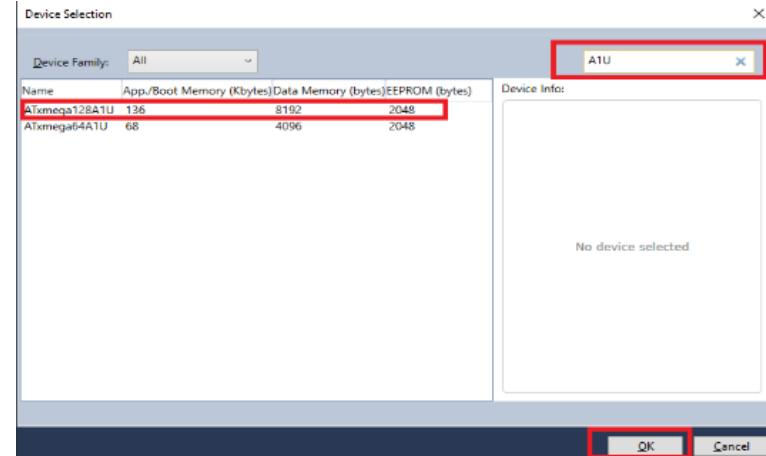
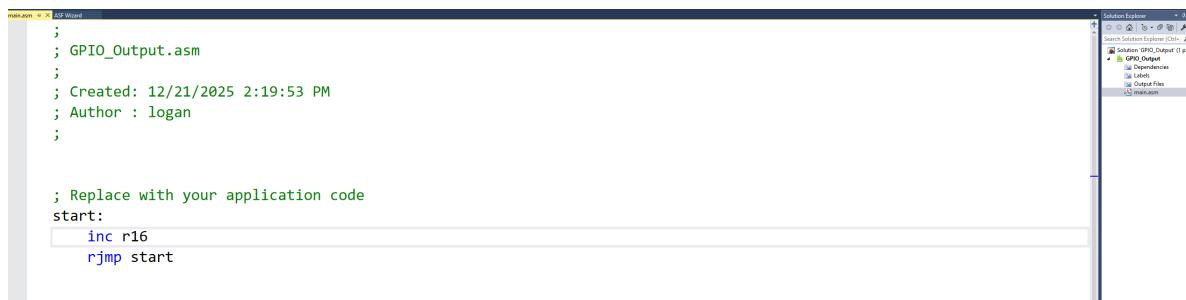

Figure 4: Selecting the Device Configuration.
Figure 5: Microchip Studio Workspace.
4. In the *Device Selection* window that automatically opens, select the correct device and click *OK*, as shown in *Figure 4*. For the entirety of this semester, we will be using the ATxmega128A1U. You should now see a workspace like what is shown in *Figure 5*.